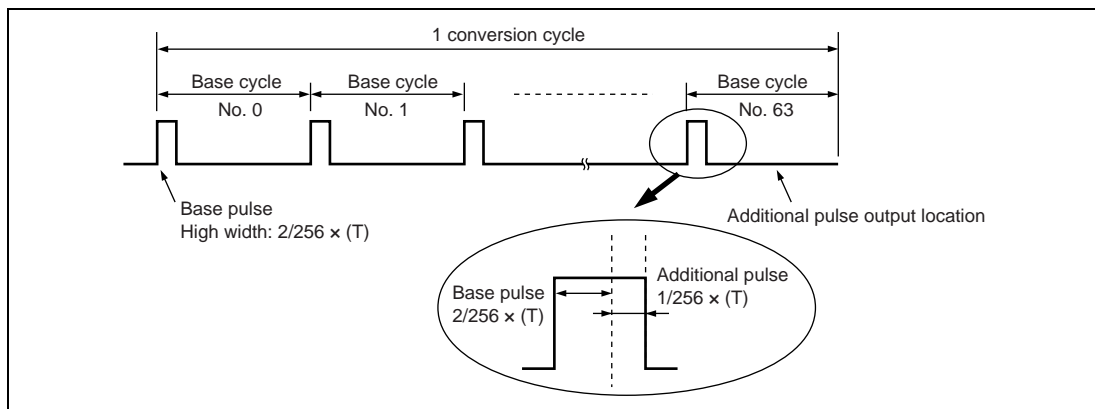

Figure 9.6 Output Waveform when DADR = H'0207 (OS = 1)
In this example, DADR = H'0207 (B'0000 0010 0000 0111). The output waveform is shown in figure 9.6. Since CFS = 1 and the value of the upper eight bits is B'0000 0010, the high width of the base pulse duty cycle is $2/256 \times (T)$.